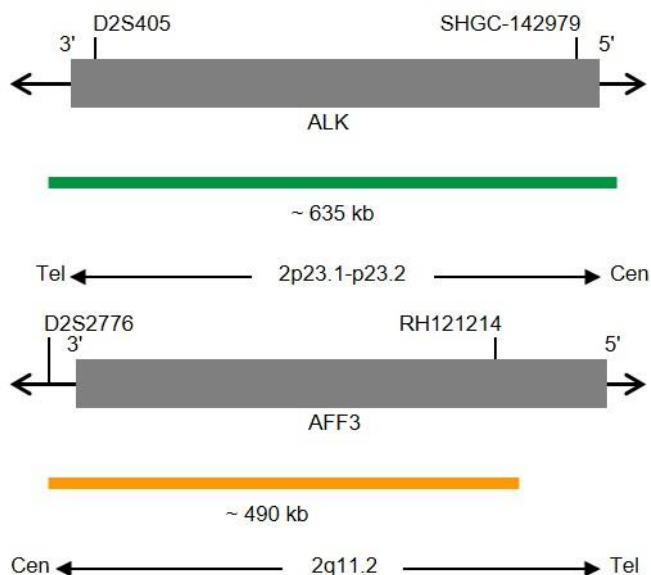

Fig. 1: Top: SPEC ALK Probe map, Bottom: SPEC 2q11 Probe map (not to scale)
- ZyGreen (excitation 503 nm/emission 528 nm) labeled polynucleotides (~10 ng/μl), which target sequences mapping in 2p23.1-p23.2* (chr2:29,460,144-30,095,822) harboring the ALK gene region (see Fig. 1).
- ZyOrange (excitation 547 nm/emission 572 nm) labeled polynucleotides (~4.5 ng/μl), which target sequences mapping in 2q11.2* (chr2:100,132,806-100,621,725) (see Fig. 1).